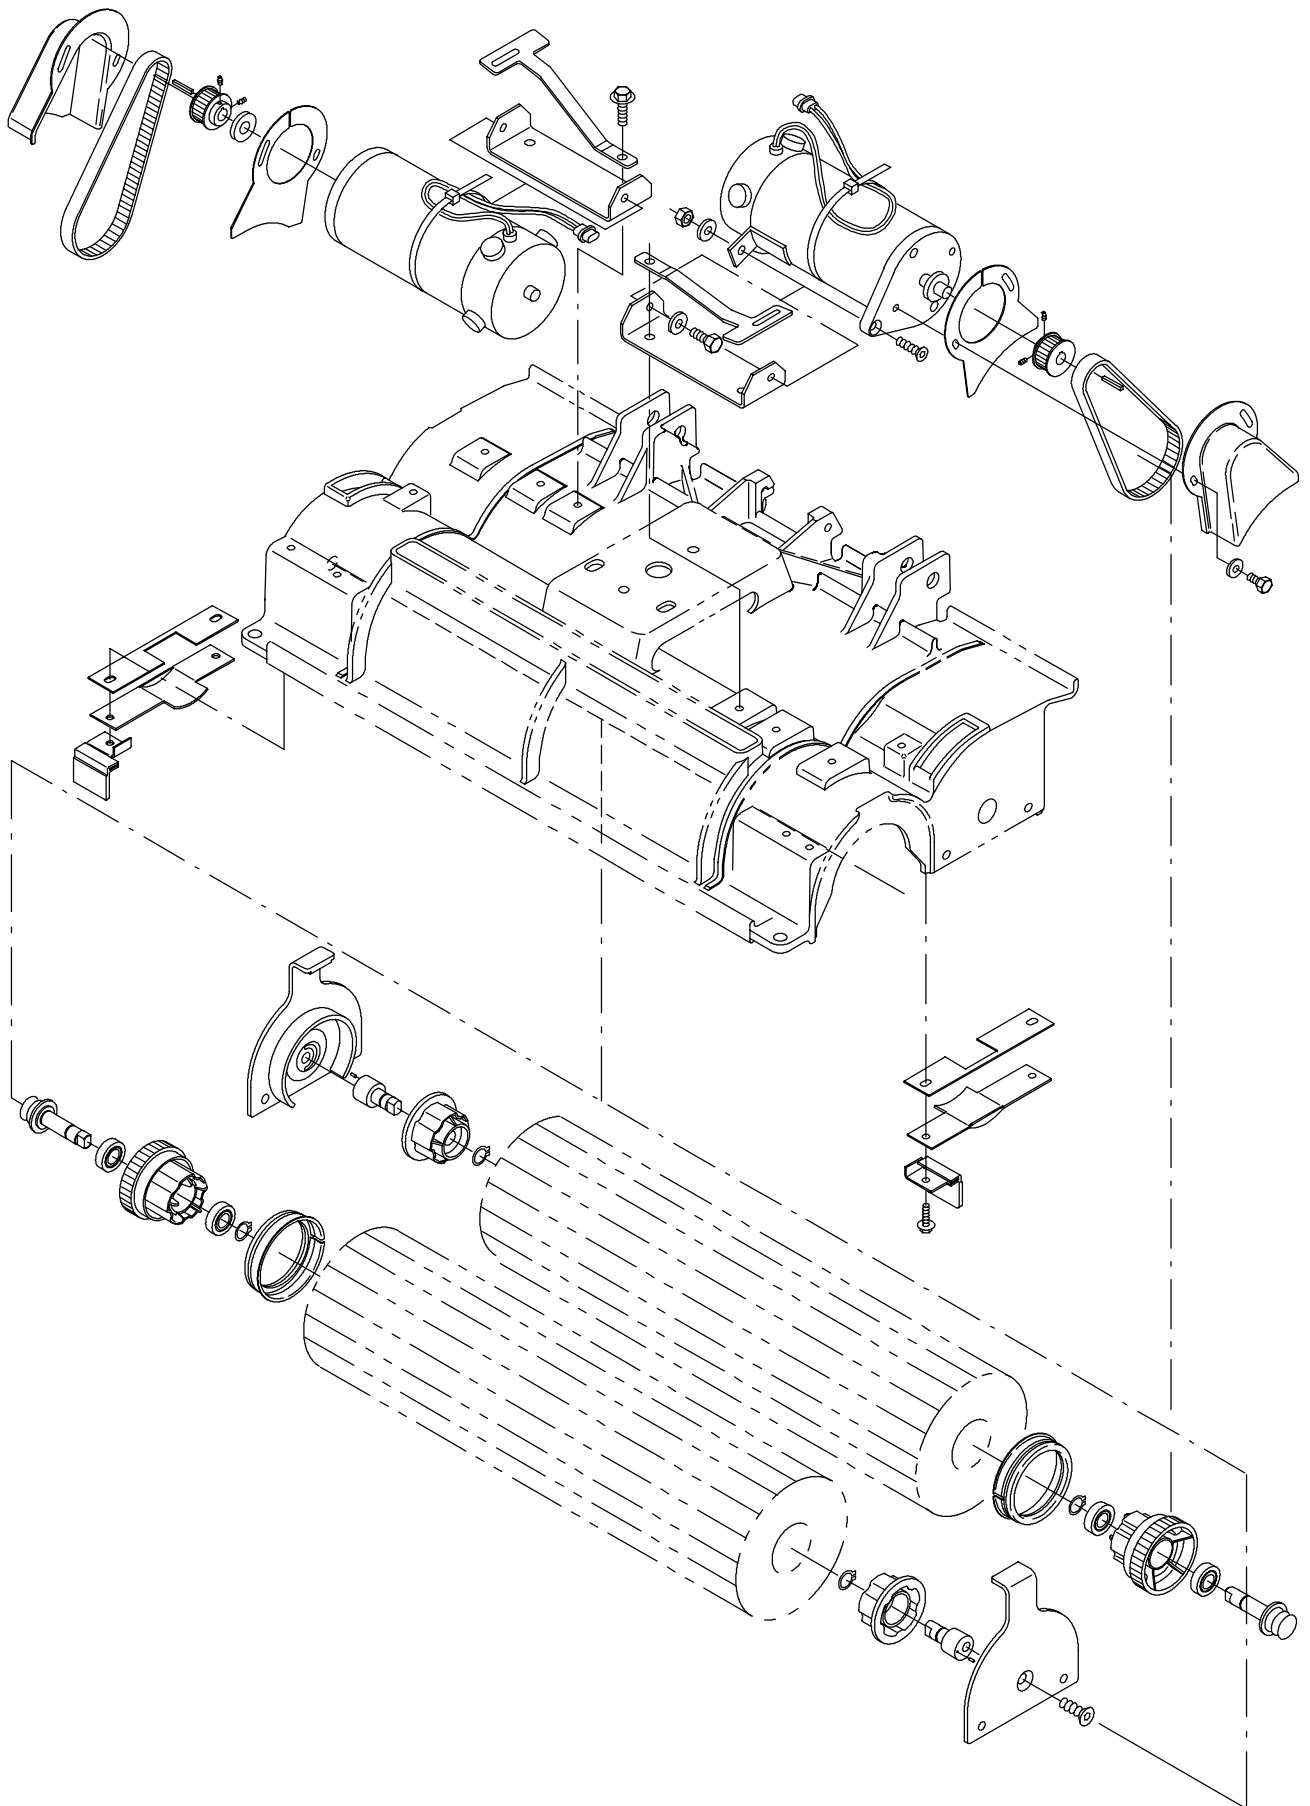

FIG. 3 - Cylindrical Scrub Head Drive Motor Group
4. Reconnect the solution hose to the tee fitting on the scrub head. (Refer to FIG 3)
5. Reconnect the scrub motors to the main wire harness. (Refer to FIG 3 and 4)